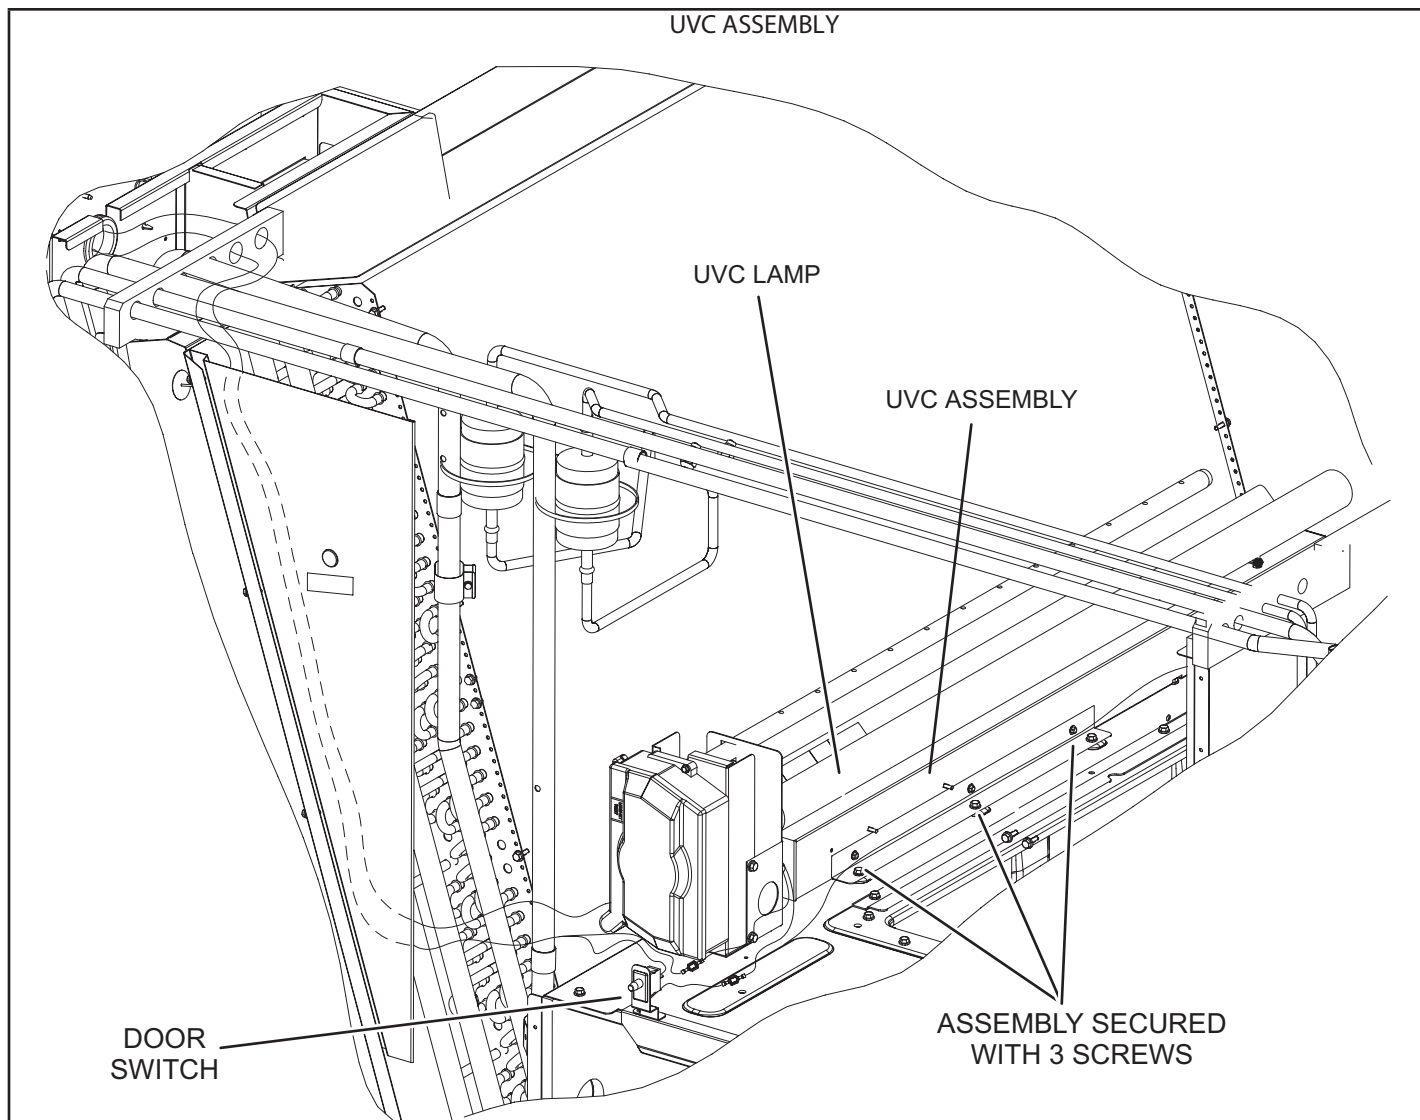

FIGURE 41
When the UVC light is factory installed, the lamp is shipped in a foam sleeve. The lamp is attached to the UVC light assembly on the blower deck. See FIGURE 41. Remove the lamp and install into the UVC light assembly as shown in steps 2 through 11.
- 4 - Remove and retain the (3) screws securing the UVC assembly. Carefully slide the complete UVC assembly out through the blower access door. See FIGURE 41.
- 7 - Carefully place the UVC assembly on the blower deck. Line up the mounting holes on the UVC assembly with the mounting holes on the blower deck. See FIGURE 41. Use the retained screws provided to attach the UVC assembly in place.